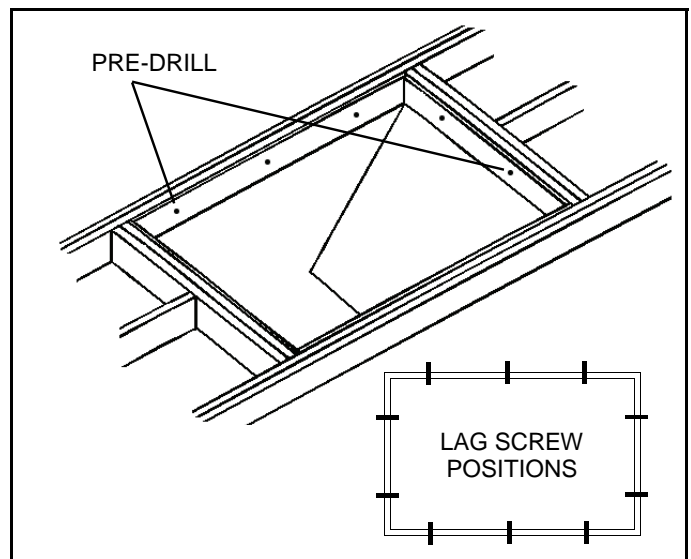

Figure 5
4. Shim and anchor stair to frame using lag screws. Pre-drill holes first. Figure 5